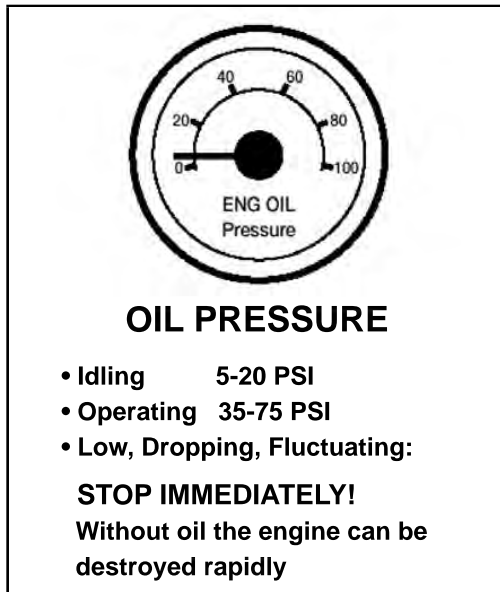

Figure 2.5
- **Oil pressure.** Pressure should come up to normal within seconds after the engine is started. See Figure 2.5.